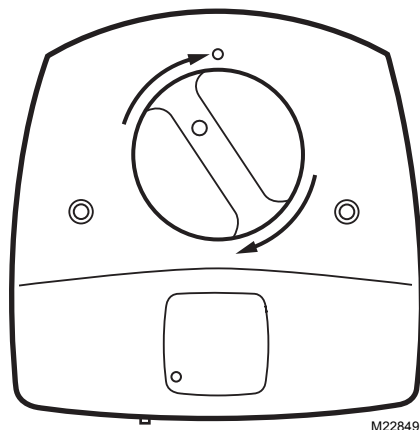

Fig. 14. Snap lamp handle into place.
8. Rotate the lamp clockwise until it snaps into place with the lamp light indicator aligned with the raised button on the unit cover. See Fig. 14.
8. Rotate the lamp handle clockwise until it snaps into place with the lamp light indicator aligned with the raised button on the unit cover. See Fig. 14.